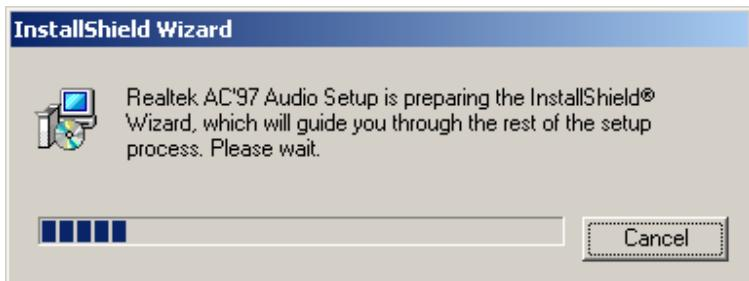

Figure 7-21: Preparing Setup Screen
Step 5: The **InstallShield Wizard** is prepared to guide the user through the rest of the process (Figure 7-21).